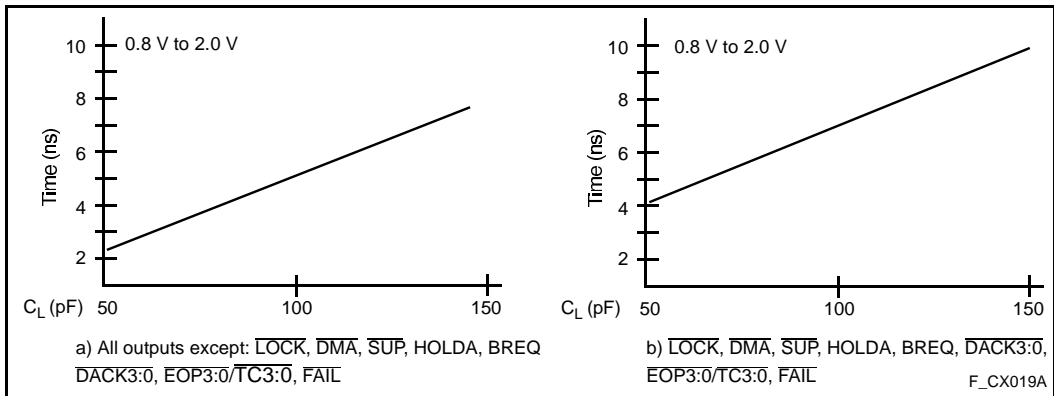

Figure 17. Rise and Fall Time Derating at Highest Operating Temperature and Minimum  $V_{CC}$
3. See Figure 17 for capacitive derating information for rise and fall times.